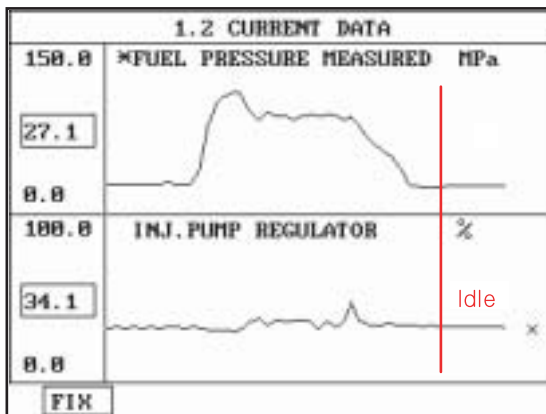

Fig.1
- Fig.1) Fuel pressure and Fuel pressure regulator valve data at idle.